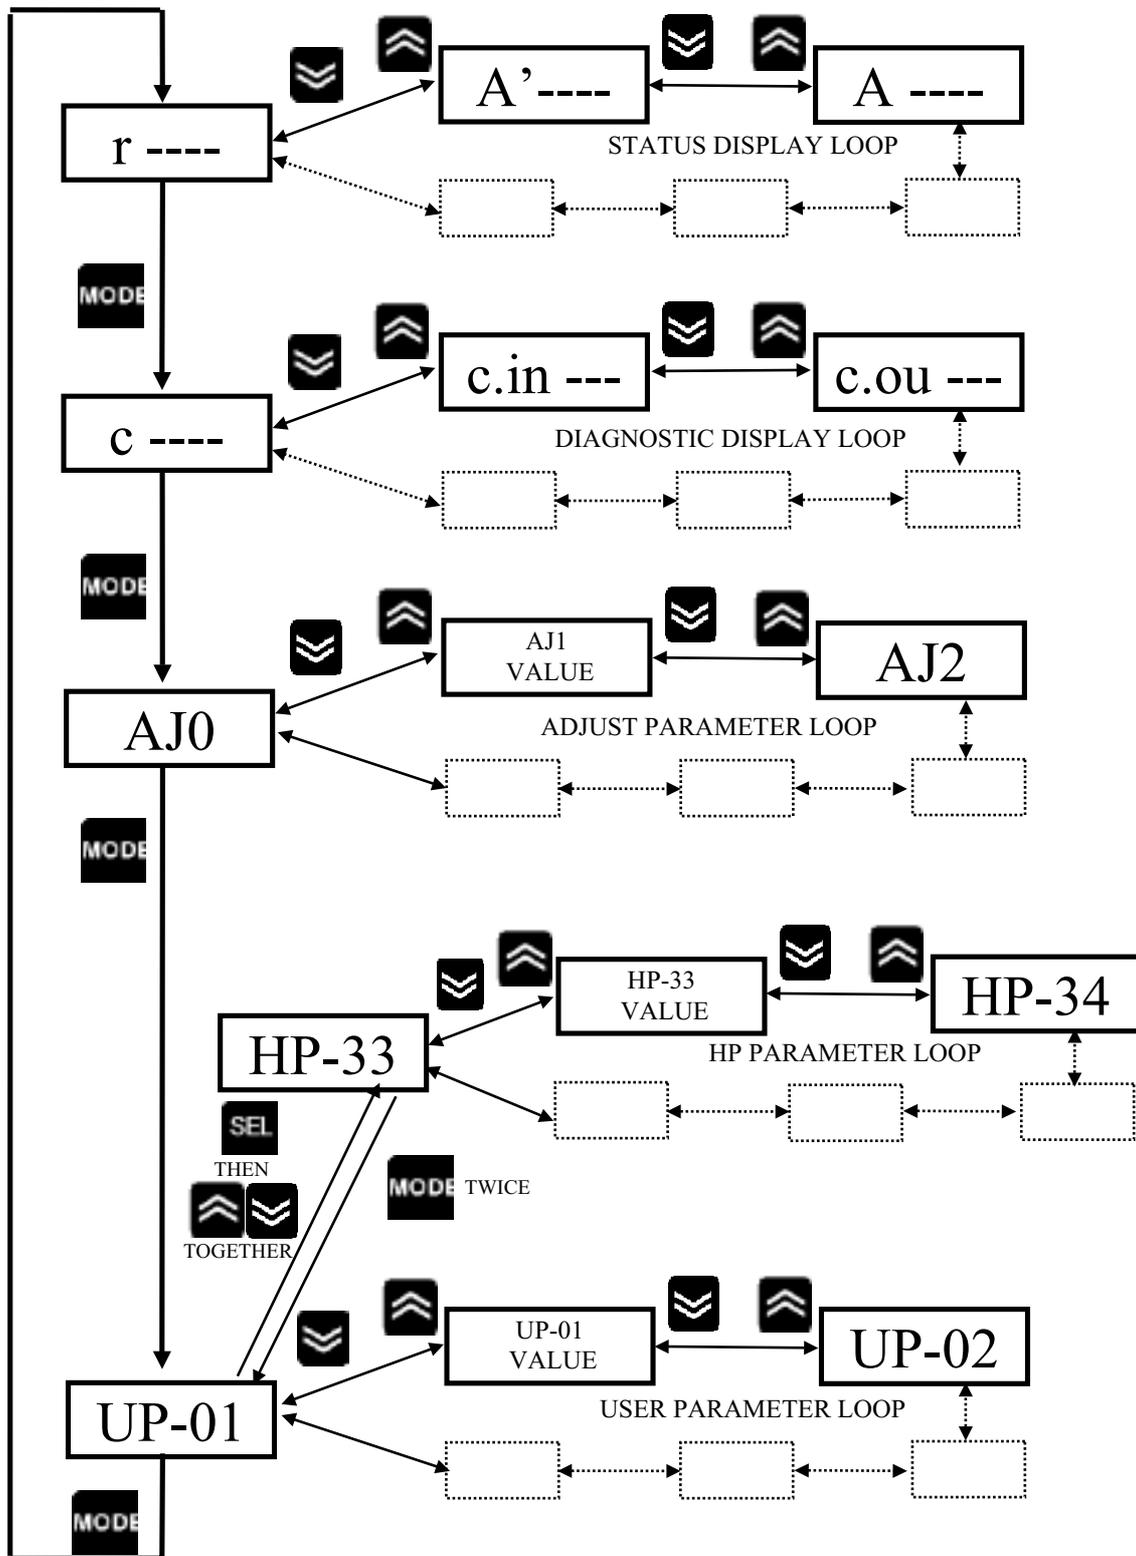

Figure 3.2 - Main Menu Loop and Minor Loops
The menu structure for programming the driver consists of a main menu loop with several minor menu loops and the Special Menu. The main menu loop and partial sections of the minor loops are shown in Figure 3.2 below.
- Navigate the main menu using the    keys to get the parameter name to be changed in the display. See **Figure 3.2**.